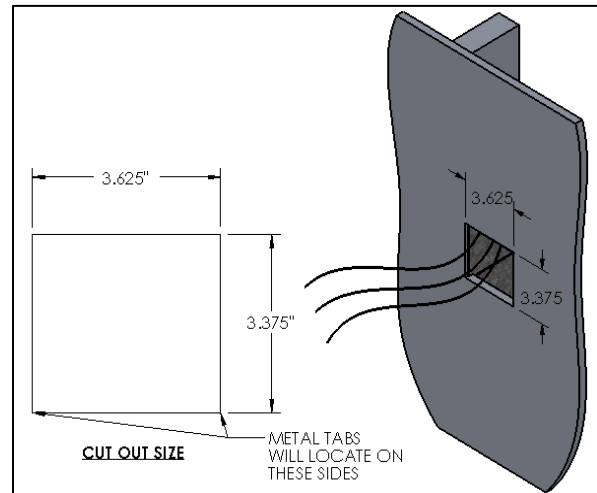

FIG. 13- J-BOX ASSEMBLY AND WALL CUT OUT
8. Attach the desired wall (ceiling) covering and finish accordingly as shown in FIG. 13.